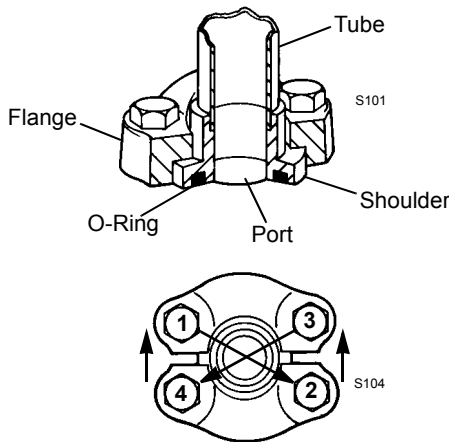

FIGURE 2-12
1. Lubricate and install O-ring in shoulder groove (see Figure 2-12). Align shoulder with port and assemble flanges over shoulder.
2. Snug bolts in a diagonal manner (Figure 2-12) to 1/3 of torque given in Table 2-6.